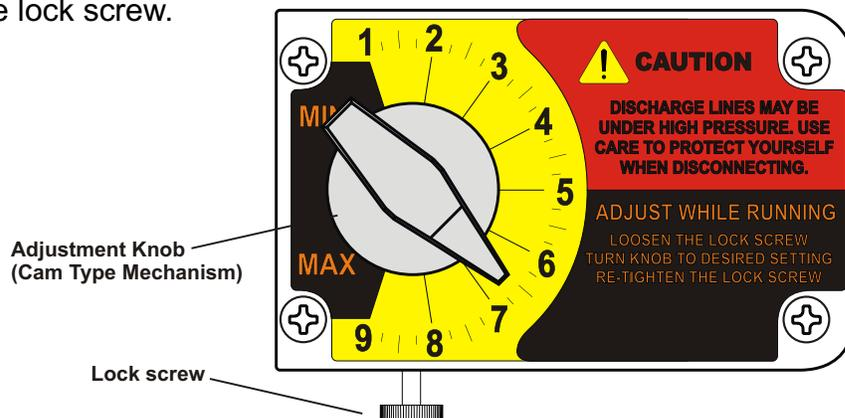

FIG. 5.1
5.1 How to adjust the output- Cam-Type Mechanism Adjustment (fig. 5.1) - The flow rate can be adjusted within a range of 5% -100% of maximum output (20:1 turndown ration) by means of a mechanical, cam type mechanism. The mechanism adjusts the pump's stroke length to an infinite number of settings within the flow range. Because the pump's output is reduced by increasing the pressure of the system being injected into, the amount of suction lift, and the viscosity of the fluid being injected, the pump must be over-sized to allow for these factors. Sizing the pump to allow adjustment within the midrange is preferred to maintain accuracy. Consult the factory for individual pump model output curve data.